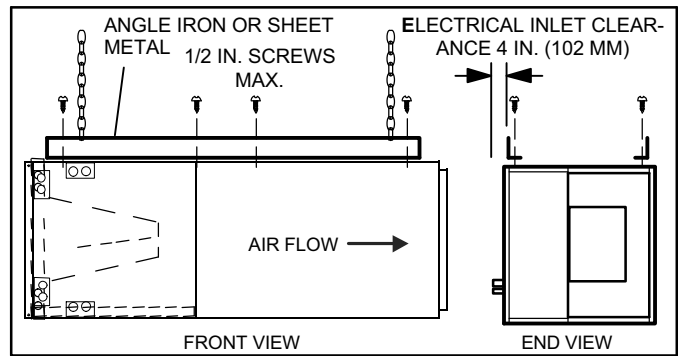

Figure 3. Suspending Horizontal Unit
6. If the unit is suspended, the entire length of the cabinet must be supported. If you use a chain or strap, use a piece of angle iron or sheet metal attached to the unit (either above or below) to support the length of the cabinet. Use securing screws no longer than 1/2 inch to avoid damaging the coil or filter. See figure 3. Use sheet metal screws to connect the return and supply air plenums as required.